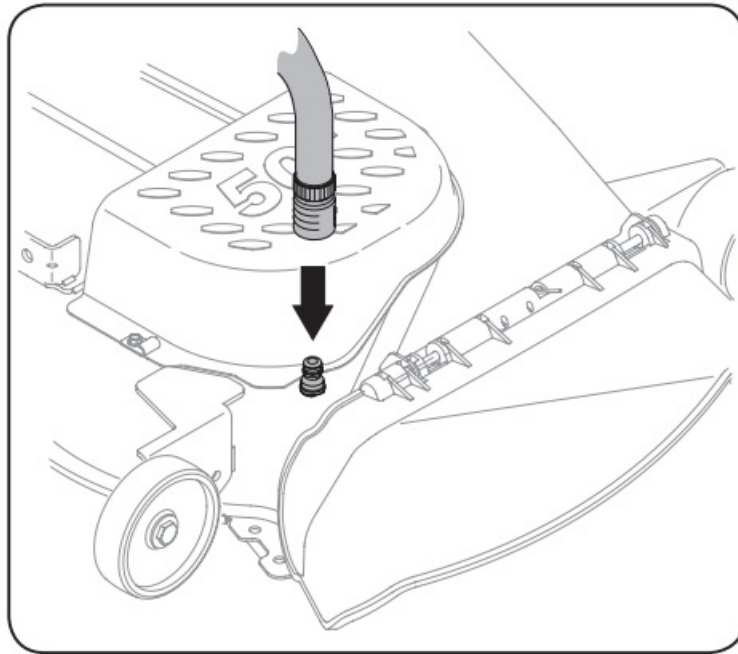

Figure 6-3
4. Pull back the lock collar of the nozzle adapter and push the adapter onto the deck wash nozzle at the left end of the mower deck. Release the lock collar to lock the adapter on the nozzle. See Fig. 6-3.